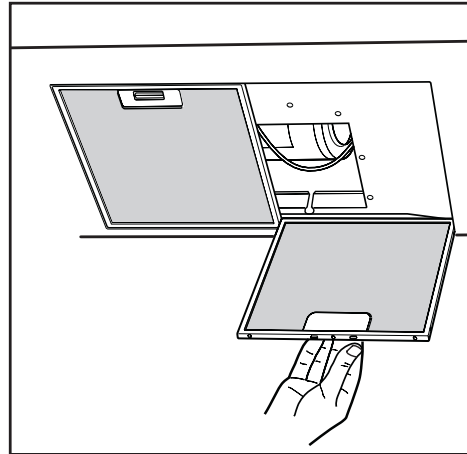
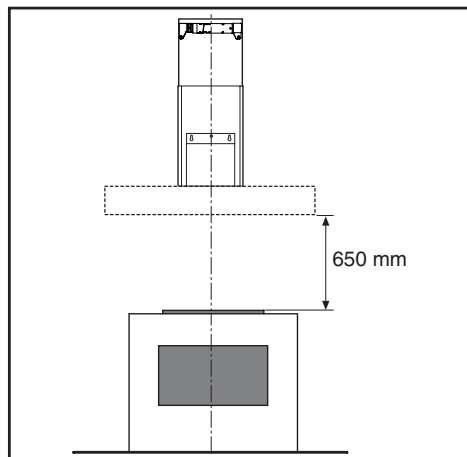

Fig.6
Fig.10
- The minimum distance between the support surfaces of the cooking pots on the cooker top and the lowest part of the cooker hood must be at least 65 cm (Fig.10). If a connection tube composed of two parts is used, the upper part must be placed outside the lower part. Do not connect the cooker hood exhaust to the same conductor used to circulate hot air or for evacuating fumes from other appliances generated by other than an electrical source. Before proceeding with the assembly operations, remove the anti-grease filter(s) (Fig.6) so that the unit is easier to handle.